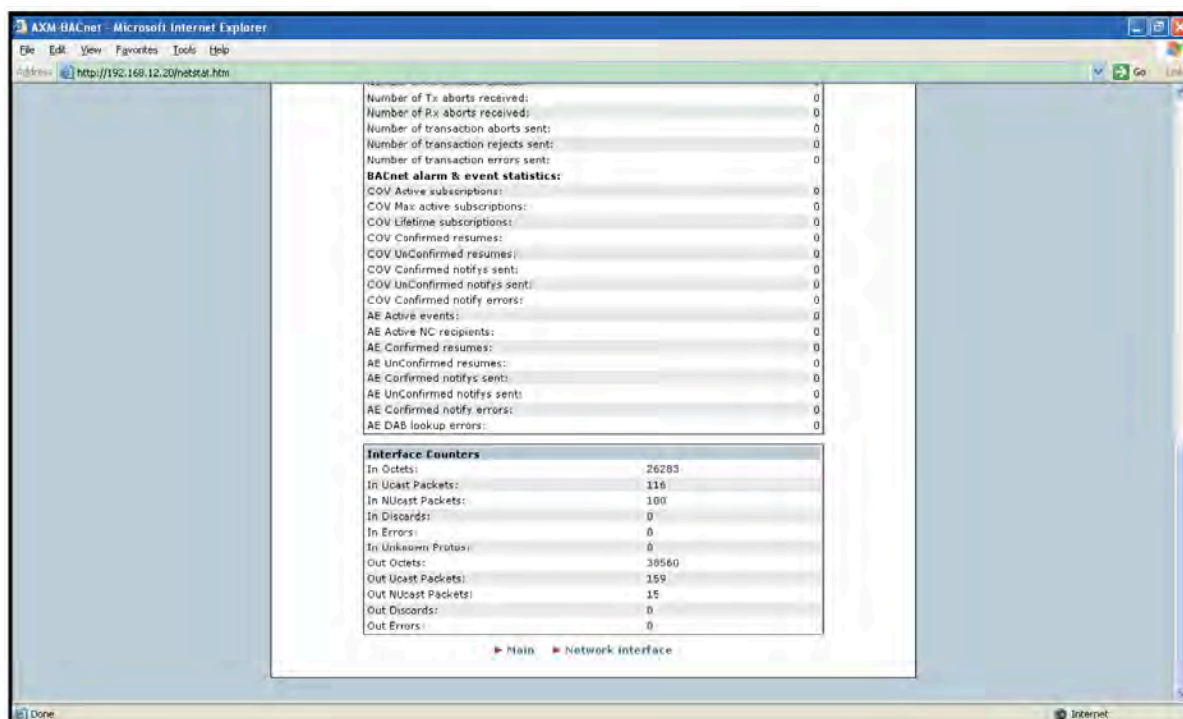

Fig 5-90
d). Set Baud Rate in the second setting page, such as 38400. The module can support the baud rate such as 9600,19200,38400,76800. Press the "V/A" key to go to the setting page. Users may set the parameters pointed out in Fig 5-90. After setting the BACnet MS/TP Baud rate, press the "V/A" key to accept. Press the "P" key to go to the third setting page for the MAX INFO FRAM.